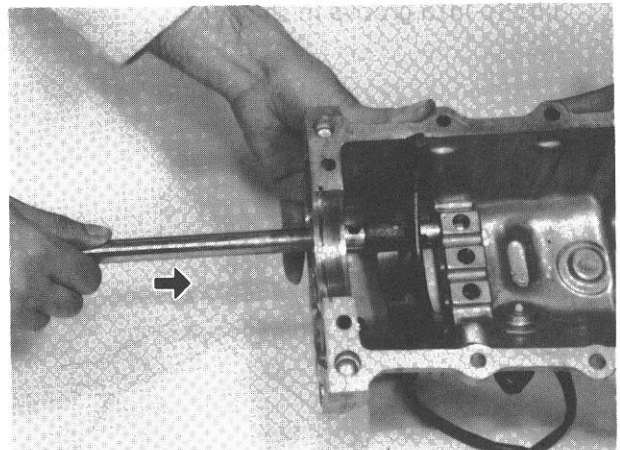

Fig. 13-60
- 2) Insert low speed gear shift shaft into upper case and low speed shift fork in the direction as shown in Fig. 13-60.